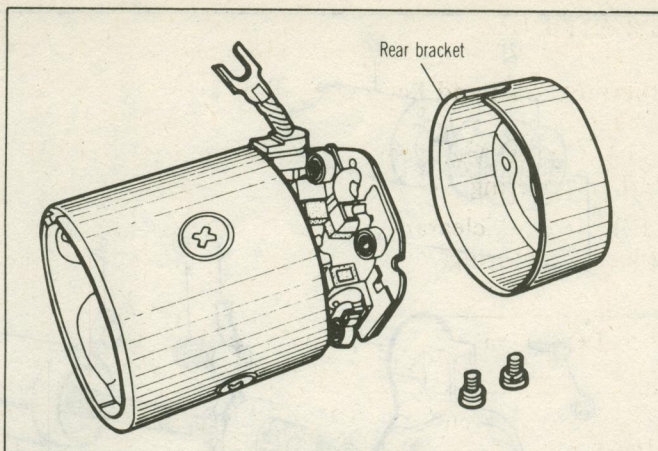

Fig. 7 Removing Rear Bracket
(4) Loosen the two screws and remove the rear bracket. (Fig. 7)